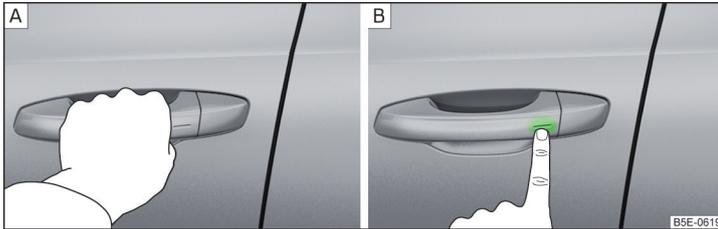

Fig. 34 Vehicle unlocking / vehicle locking
- Grip the door handle to **unlock** the vehicle » Fig. 34 - **A**.
- Touch the sensor on the door handle with your finger to **lock** » Fig. 34 - **B** the vehicle.